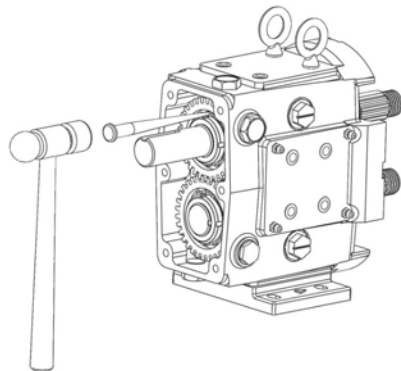
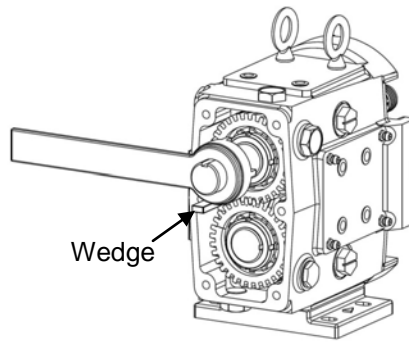

Figure 43: Bending Tabs on Lock Washers
Figure 44: Removing Lock Washers
2) Using a hammer and a punch, bend the tabs straight on the lock washers (Figure 43). Use a wedge (wood or plastic) to keep the shafts from turning while removing the lock nuts (Figure 44). Using a spanner wrench or the nut removal tool (available from Ampco), remove the gear lock nuts. Slowly remove the gears from the shafts. Remove the gear keys and gear spacers from the shafts.